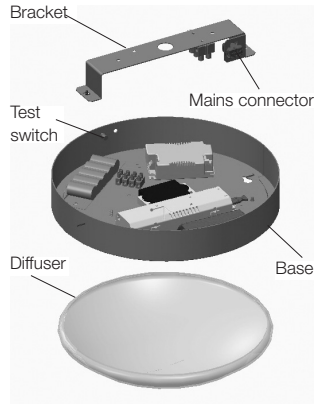
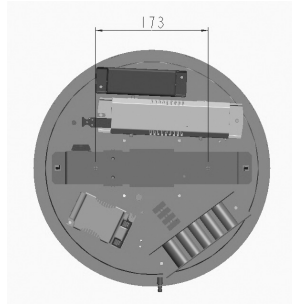

Figure 1
Figure 2: Wall Mounting Only (Test Switch must be facing down)
4. Loosen 2 screws to remove the base from the mounting bracket. Refer figure 1. Use the bracket as template to mark mounting hole and cable entry hole position. **Note:** For wall mount orientation refer figure 2.
9. Plug the mains cable harness from base to the mains connector on the mounting bracket. Secure the base tightening the 2 screws. Refer figure 1.
2. Remove the diffuser shown in figure 1.
3. Remove the base by loosening 2 screws and unplug the mains cable harness from the mains connector on the mounting bracket. Refer figure 1.